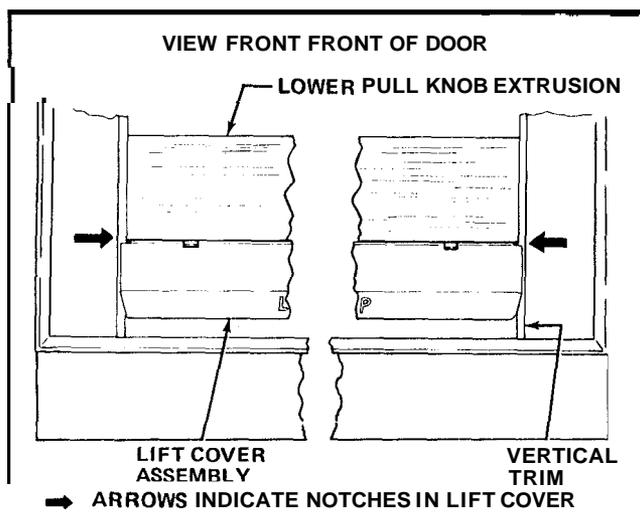

FIGURE 5
8. Adjust the Lift Cover Assembly to center it properly in the Cabinet Door. The Vertical Trim on each side of the Cabinet Door should be under the notch which is in each side of the Lift Cover. See Figure 5. Raise and lower the Lift Cover to assure proper action.